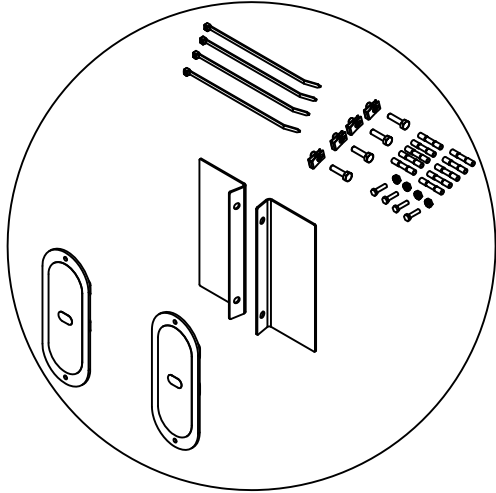

Figure 1: LED Light Kit.
1. Verify LED Light Kit (Figure 1 and Table 1).